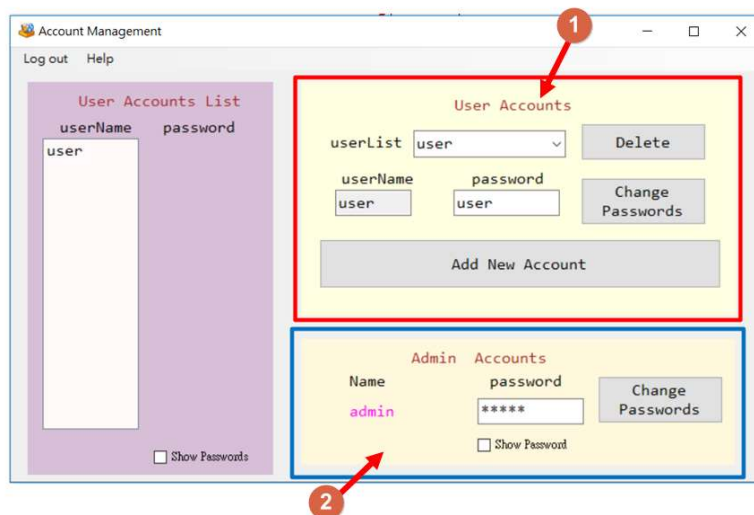

Figure 71
Click once to enter this function. This function is divided into 2 areas. (1) User Accounts and (2) Admin Accounts, as shown in Figure 71.